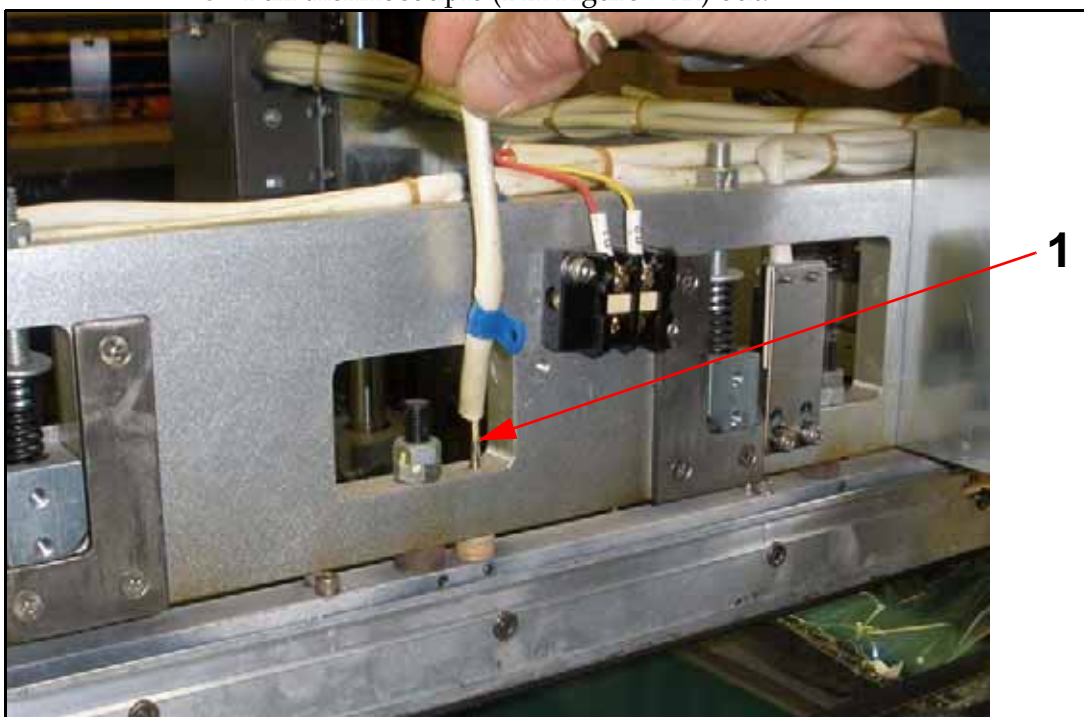

Figure 7-22. Thermocouple Removal
- 9 Pull thermocouple (1 in Figure 7-22) out.